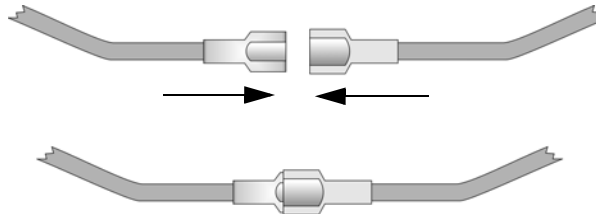

Figure 4-5 Splicing Control Panel Battery Cable to RBB Battery Cable Extenders
2. Connect the main control panel battery cables to the battery cable extenders as shown in Figure 4-5.